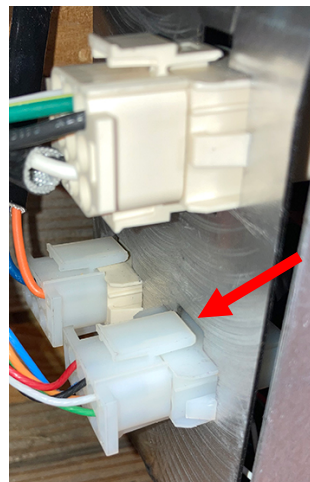

Figure 5
6. There is a small space between the transformer box and the electrical connectors (see Figure 5).